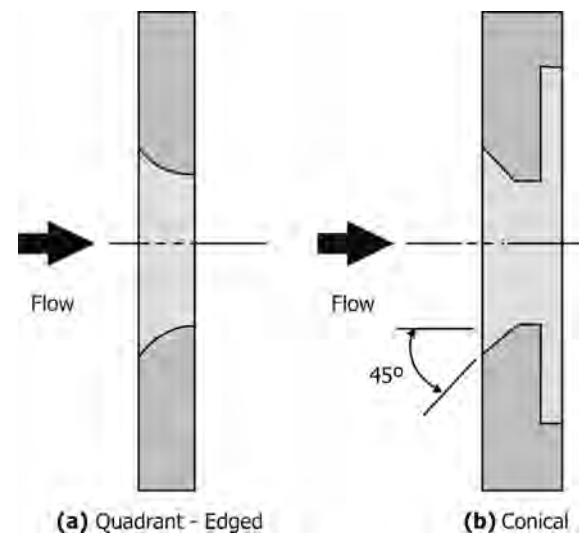

FIGURE 4.9 Orifices for viscous flows.
- Quadrant-edged and conical orifice plates, used for viscous flows are illustrated in Figure 4.9.